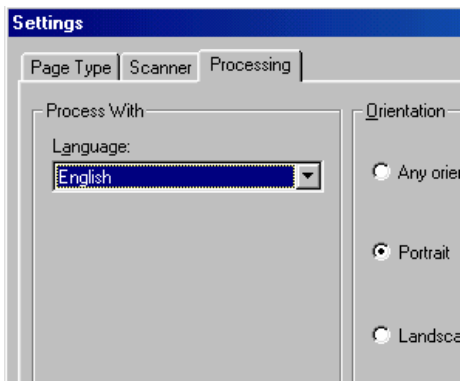

Figure 21: Selecting the language
9. Select the language in the 'Process With' box by clicking on the arrow for the drop-down menu and selecting the language (Figure 21).